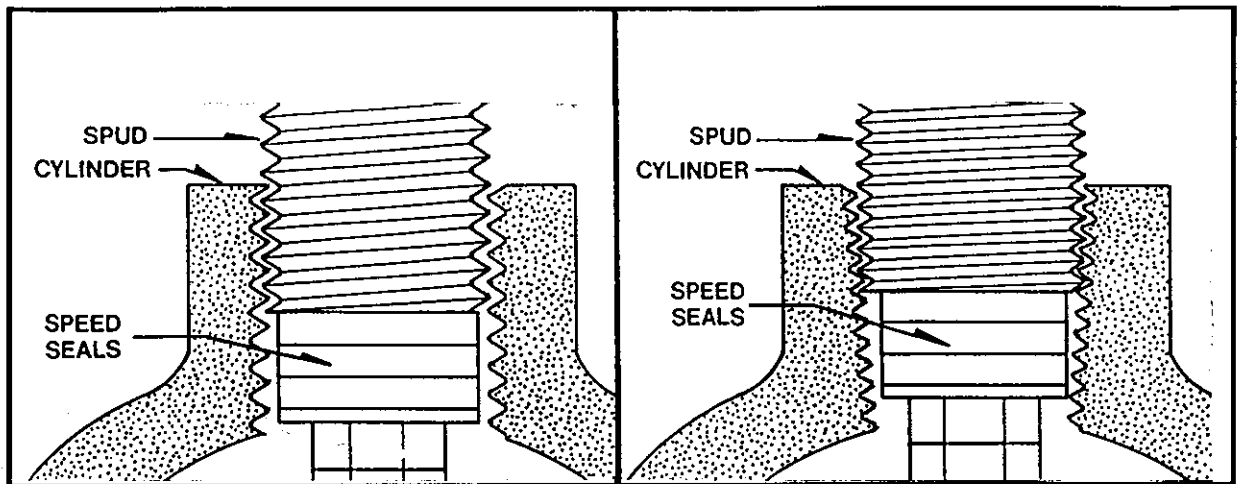

FIGURE 4) CYLINDER NECK THREAD DETAIL
3. Make certain that you are using a test spud that is appropriate for the neck threads of the cylinder which is being tested (see Figure 4 below). Certain types of cylinders (such as cylinders with oversize neck threads or double tapered neck threads) will appear firmly attached when screwed on to an incorrect test spud, without properly engaging the threads of the test spud. If you have any questions concerning the appropriate test spud to be used with a particular type of cylinder, contact Galiso.
15. **CAUTION** : The Hydraclose Test Head must be securely engaged with at least five (5) threads in the cylinder neck in order to safely seal (see Part 3, Figure 4). All cylinders should be inspected before testing to insure that the neck threads are not excessively worn or damaged. Cylinders with inadequate neck threads should be re-tapped or condemned.
16. Make certain that you are using a test spud that is appropriate for the neck threads of the cylinder that is being tested (see Part 3, Figure 4). Certain types of cylinders (such as UCC cylinders with oversize neck threads or Airco cylinders with double tapered neck threads) will appear firmly attached when screwed on to an incorrect test spud. If you have any questions concerning the appropriate test spud to be used with a particular type of cylinder, contact Galiso.
- A. The Hydraclose Test Head is screwed into the cylinder neck, engaging with at least five (5) neck threads (see number 15 above).